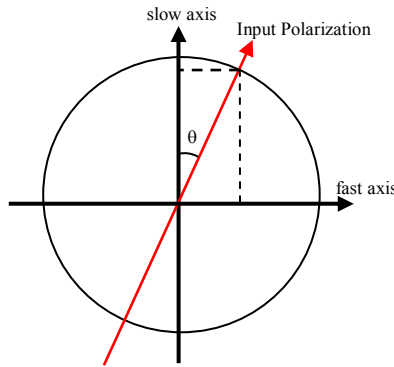

Figure 28 A representation of linearly polarized light misaligned by an angle θ from the slow axis of a PM fiber
Polarization maintaining (PM) optical fibers have an optical (slow) axis defined by a strong linear birefringence. If light input to an ideal PM fiber is polarized along the fiber's optical axis, the polarization state will be maintained during propagation through the fiber. However, if it is misaligned, or is not fully polarized, the component polarized along the slow axis propagates at a different speed than the component polarized along the fast axis. Thus, the polarization state of the light changes with the relative phase delay between the two components as it propagates through the fiber. For the case of a linearly polarized light beam launched into a PM fiber with its polarization axis rotated by an angle θ from the PM fiber's slow axis, as shown in Figure 28, the extinction ratio due to the misalignment can be calculated as